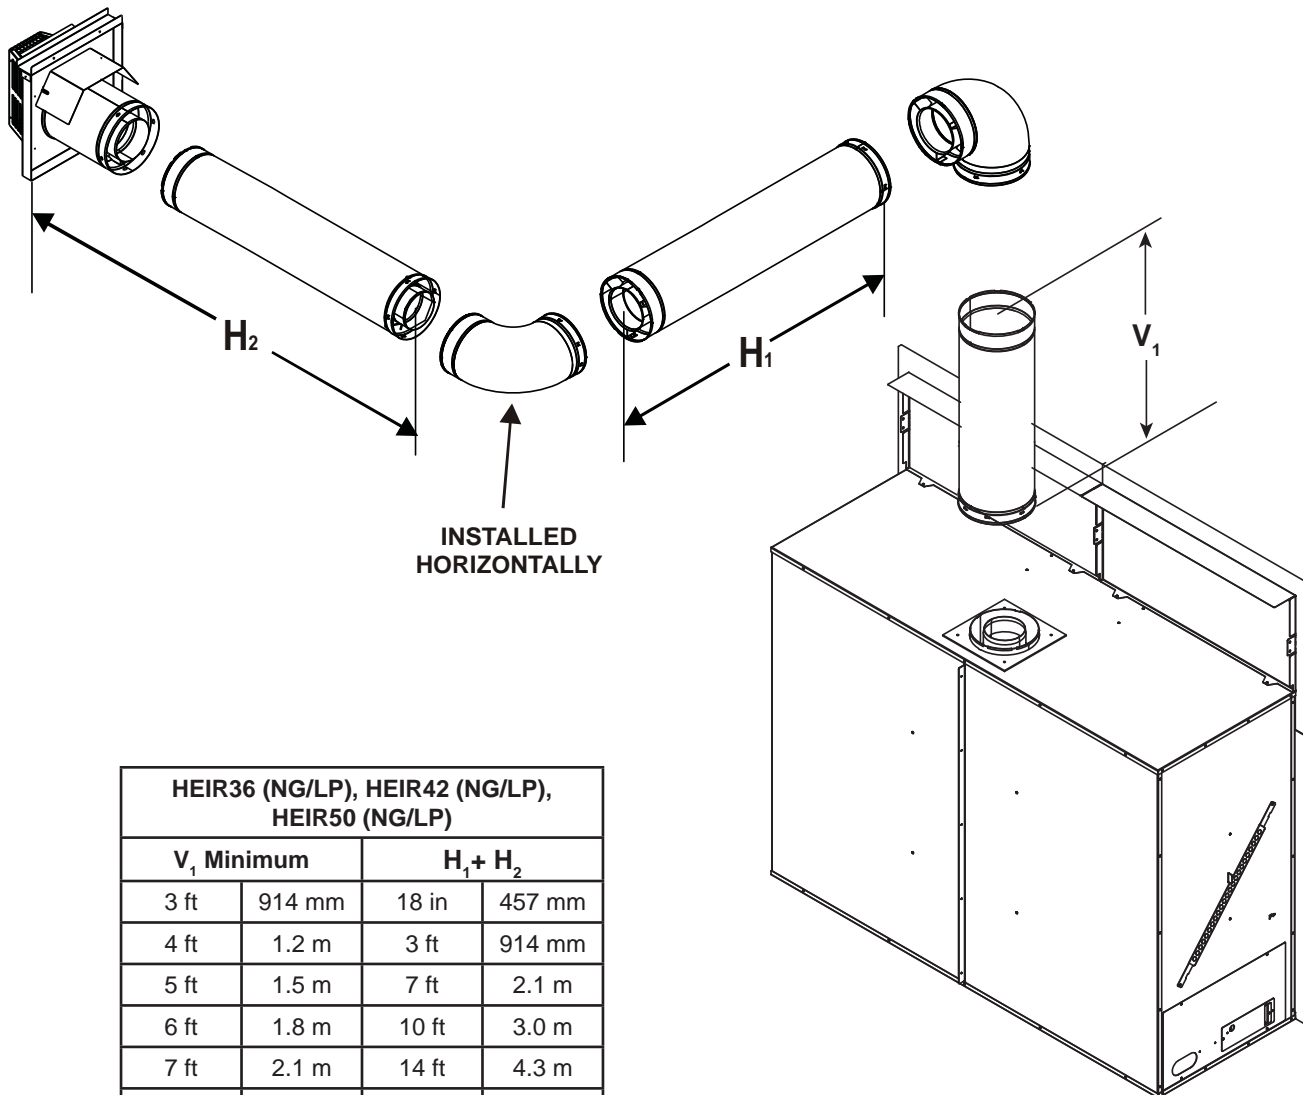

Figure 7.4
- HEIR36(NG/LP), HEIR42(NG/LP) and HEIR50(NG/LP) models require a minimum of 36 inches of vertical venting before attaching any elbow to the appliance for the venting configuration in Figure 7.4.